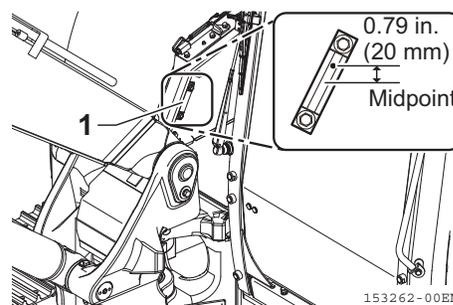

Fig. 3-12
2. Check the oil level by reading the oil level gauge (Fig. 3-12, 1). When the ball inside the gauge is located 0.79 in. (20 mm) above the midpoint between the upper and lower limit marks, the oil level is appropriate.